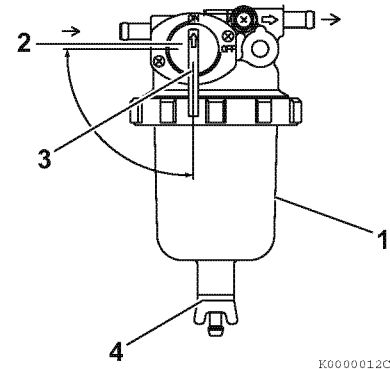

Figure 5-4
1. Position an approved container under the fuel filter/water separator (1, **Figure 5-4**) to collect the contaminants.
2. Close (2, **Figure 5-4**) the fuel cock (3, **Figure 5-4**).
3. Loosen the drain cock (4, **Figure 5-4**) at the bottom of the fuel filter/water separator. Drain any water collected inside.
5. Open the fuel cock (3, **Figure 5-4**).